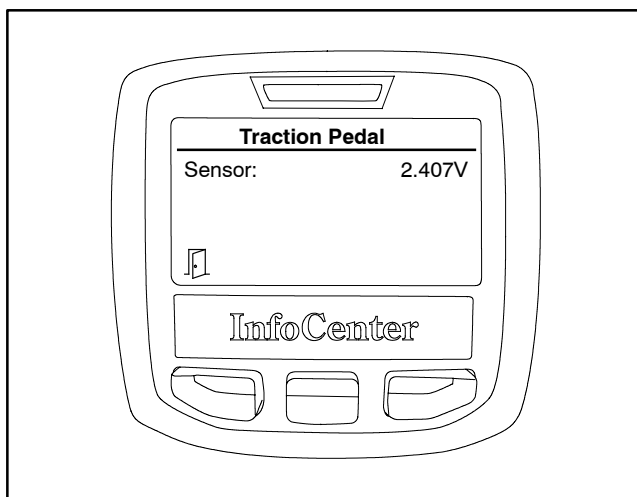

Figure 23
3. Use the InfoCenter Display Diagnostics menu (see InfoCenter Display in this chapter) to obtain and select the Traction Pedal menu item. Choose Inputs and the InfoCenter display should identify sensor voltage (Fig. 23).